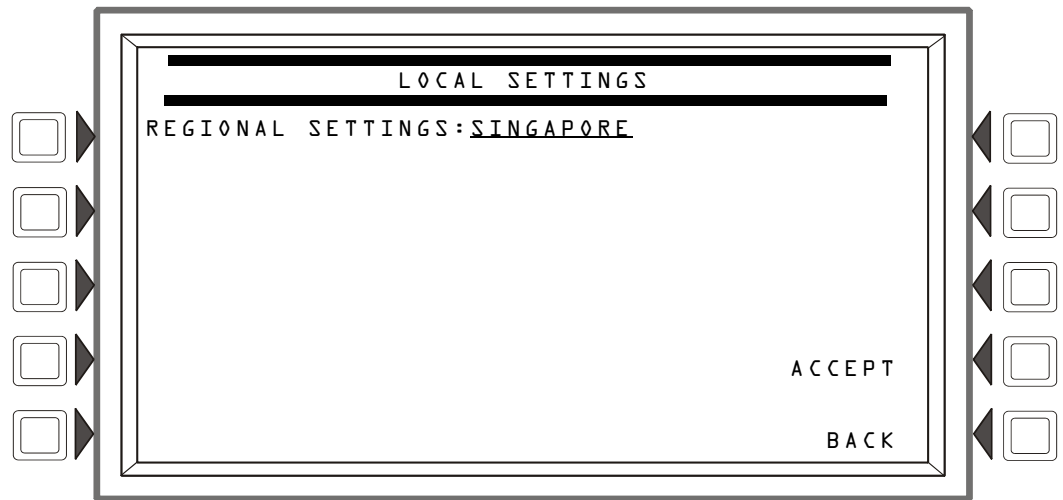

Figure E.1 Regional Settings Screen
The panel programming REGIONAL SETTINGS choices, available through the Panel Settings (2) screen (refer to page 70) are described below. The REGIONAL SETTINGS screen (Refer to Figure E.1) allows scrolling through the available choices by pressing the soft key. Choices are CHICAGO, SINGAPORE, AUSTRALIA, CHINA, CANADA or DEFAULT (no special regional settings).